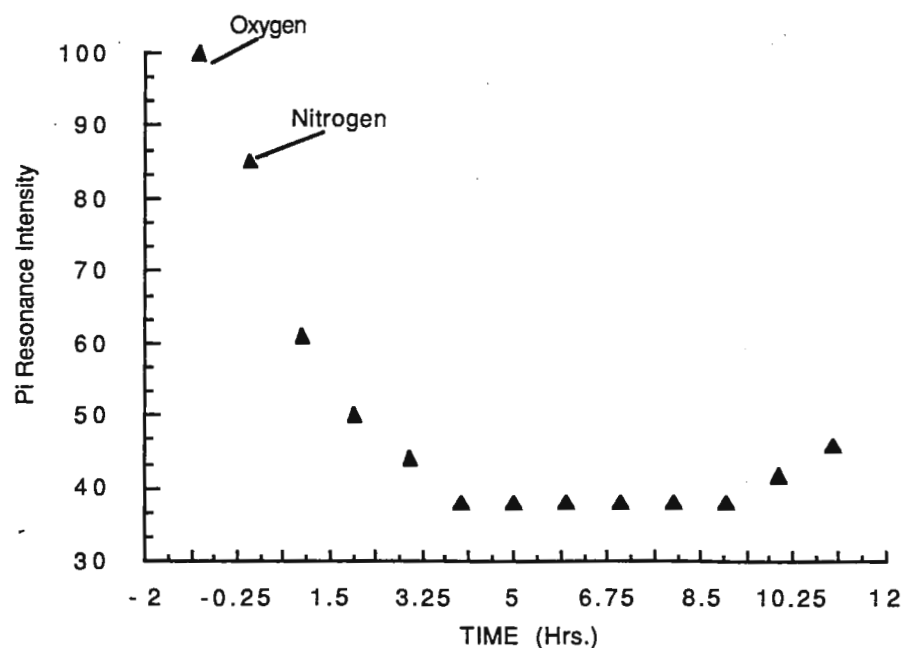

Figure 1. Area of cortical tissue vacuolar Pi resonance as a function of the duration of hypoxia treatment, (circulating N₂ saturated perfusate medium).
During the course of *in vivo* ³¹P studies of nitrogen fixing soybean nodules we observed a significant loss of the vacuolar Pi resonance magnetization when the tissue was perfused with N₂ relative to O₂. Approximately 80% of the magnetization was restored following 1.5 hr. of O₂ perfusion (data not shown). This is a novel finding never before observed in any of our or other previously reported ³¹P NMR plant tissue work (1). Figure 1 illustrates the loss of vacuolar Pi magnetization as a function of N₂ perfusion time. Upon dissecting the nodules into their component outer cortex and inner matrix we examined the ³¹P spectrum of each excised tissue and observed that the unusual loss of magnetization following N₂ perfusion was emanating from the vacuolar compartment Pi resonance (0.9 ppm, pH = 5.5) of the cortical tissue (outer layer of cells surrounding the nodule).